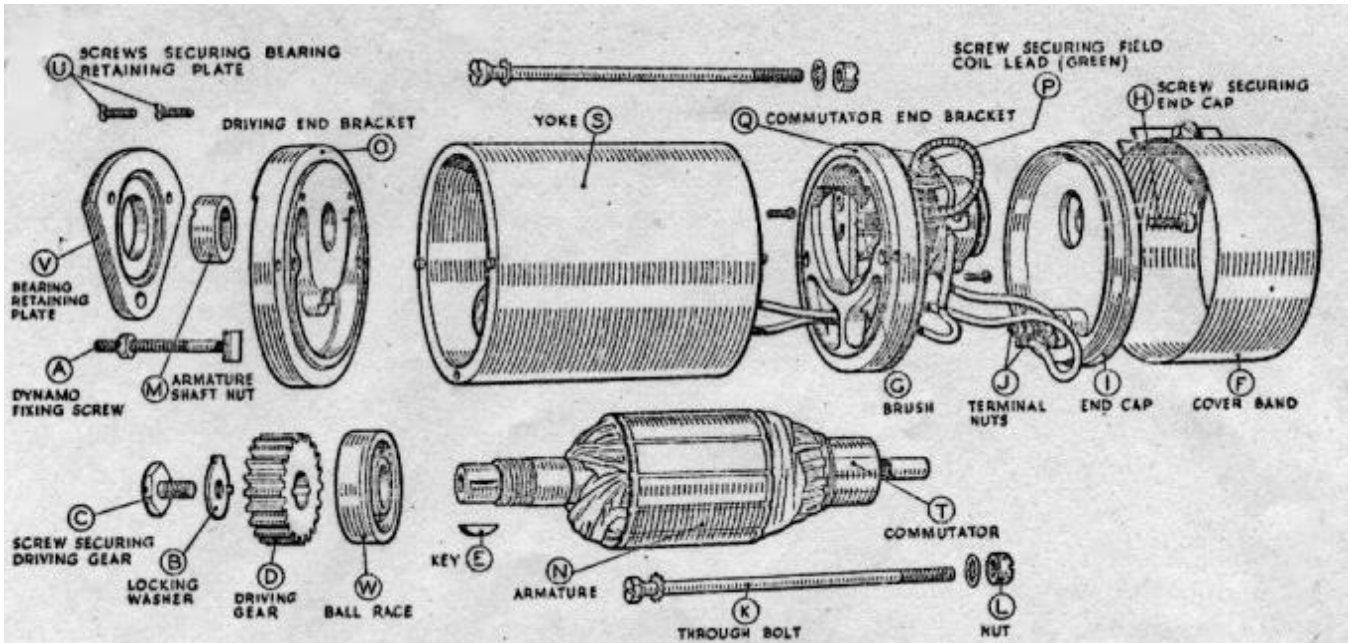

Fig. 59. Exploded view of dynamo
When replacing, slide the dynamo through the band clip so that fixing screw (A, Fig 59) passes through its hole in the end cover and the gears mesh correctly. Tighten the end nut and the band clip fixing screws and remake the connections to the dynamo terminals
- (a) Bend back the tag on the washer (B, Fig. 59) locking the screw (C) securing the driving gear (D) and remove the screw. Withdraw the gear from the dynamo shaft by carefully levering it off by means of an extractor. Remove the key (E) from the shaft.
- (b) Remove the cover band (F), hold back the brush spring and lift the brushes (G) from their holders.
- (c) Take the screw (H), with spring washer, from the centre of the black moulded end cap (I). Draw the cap away from the end bracket, take off nuts (J) and spring washers, and lift the connections off the terminals.
- (d) Unscrew and remove from the driving end bracket, the two bolts (K) securing the driving end bracket (O) and commutator end bracket (Q) to the dynamo yoke (S). Hold the nuts (L) at the commutator end whilst unscrewing the bolts, and take care not to lose the nuts.
- (e) Draw the armature (N) complete with end bracket (O) out of the yoke.
- (f) Unscrew the nut (M) from the driving end of the dynamo shaft and remove the armature from the end bracket, using a hide or wooden mallet.
- (g) Take out the screw (P) securing the green field coil lead (green) to commutator end bracket and remove the end bracket (O), withdrawing the connectors through the slot in the insulating plate.
The ball bearing (W, Fig. 59) at the driving end is replaced as follows:-